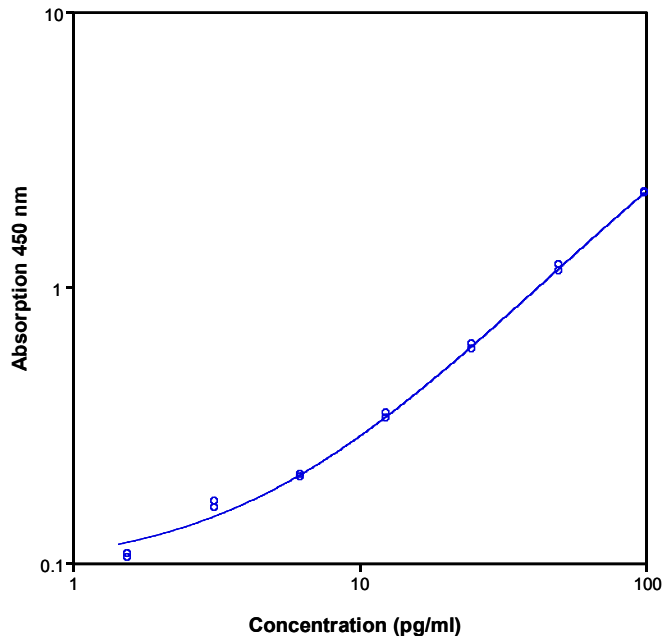

Fig. 8 Representative standard curve for human IL-1 α ELISA. Human IL-1 α was diluted in serial 2-fold steps in Sample Diluent.
- A representative standard curve is shown in Figure 8.